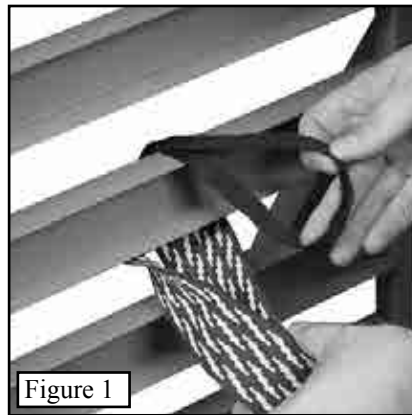
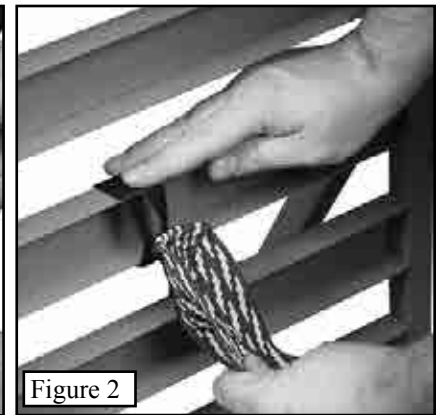
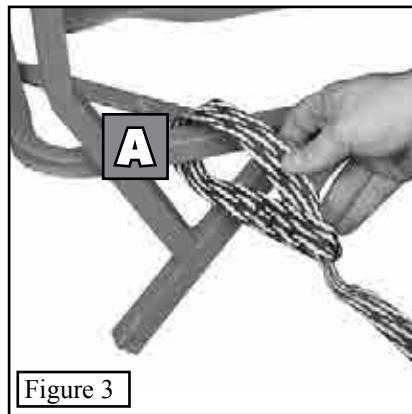
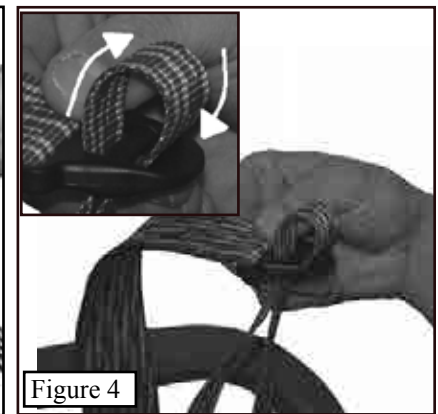

Figure 1
Figure 2
Figure 3
Figure 4
Backpack Straps. The backpack straps consist of three parts - two 1” wide straps each with sewn in loop and a 2” wide strap with buckles and a loop sewn in. Place the looped end on the 2” wide strap around the middle of the second platform rung from the front of the stand as shown in **Figure 1**. Push all of the remaining 2” strap through the loop as shown in **Figure 2**. Pull tight to create a cinch knot. Place the looped end of the 1” wide strap around the stand tubing (A) and bring the loose end back through the loop as shown in **Figure 3**. Repeat for other side. Thread the loose end of each 1” strap through the buckle on the 2” strap as shown in **Figure 4**.